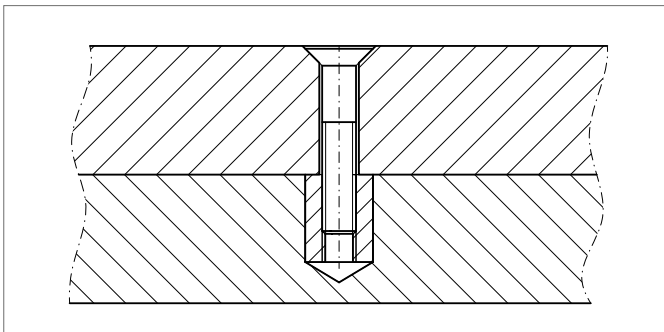

Abb. 8-2 Correct screw connections
- Use thread inserts (e.g. polymer or brass sleeves) for required screw connections in REHAU I HANEX (Abb. 8-2)